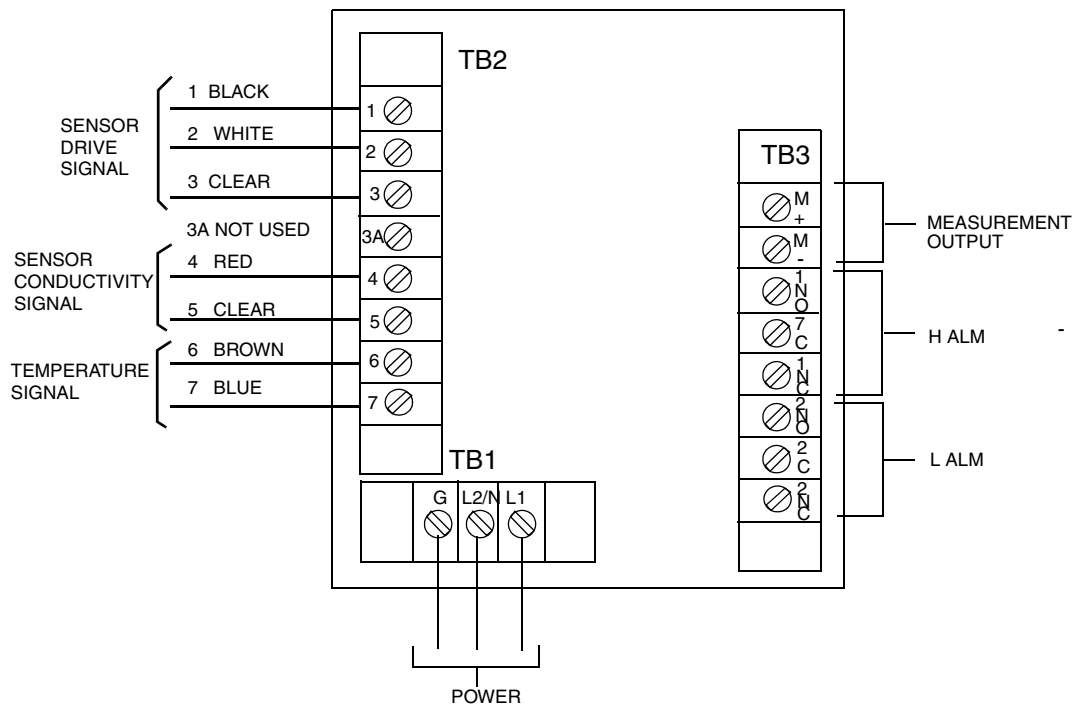

Figure 8. Rear Panel Wiring - Plastic Enclosure
2. Connect Hi and Lo alarm wires to TB3 as shown in Figure 8.
3. Connect wires from external circuit for analyzer measurement output to terminals TB3–1(+) and TB3–2(-). Refer to Figure 8.
5. Connect sensor wires to analyzer terminal block (TB2) in accordance with Figure 8.
6. Remove the safety cover from TB1. Connect power wires to terminal block TB1 as shown in Figure 8. Replace the safety cover on TB1.